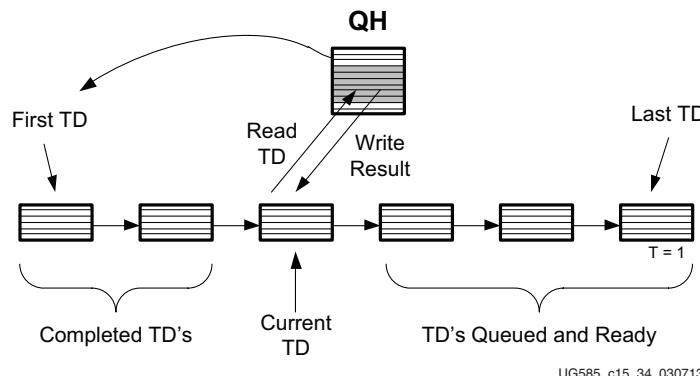

Figure 15-5: USB Controller Link-list Concept
The host and device controllers use link-list descriptors to manage transfers to and from memory buffers. The concept is shown in Figure 15-5. The first Transfer Descriptors (TD) is pointed to by a Queue Head (QH). Each dTD can point to another dTD (using next dTD pointer) or terminate the linked list by setting its (T) bit = 1.